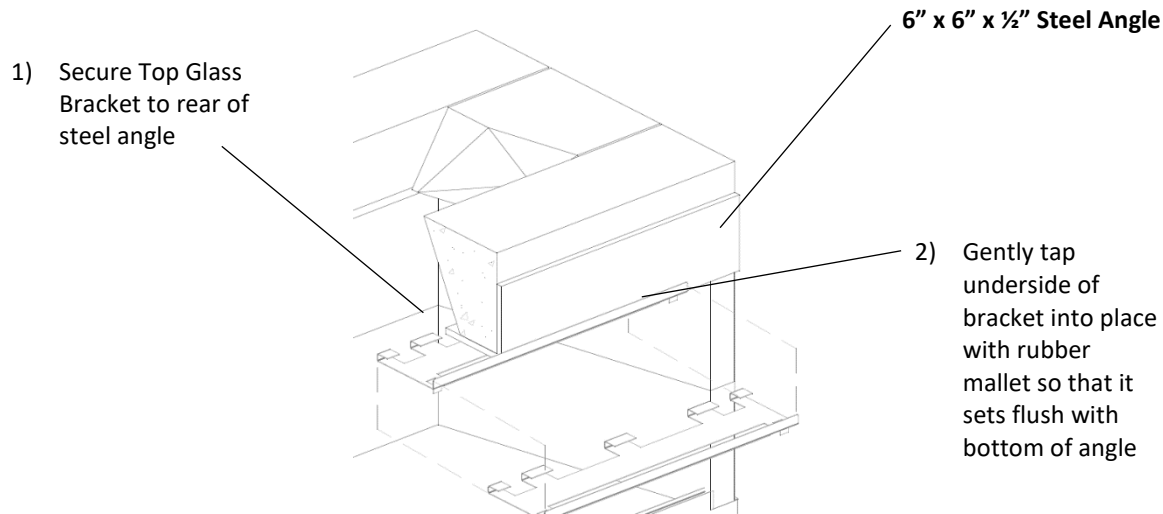

FIGURE 17
9) For the 72", 96" and 120" models, once the dampers beams are set into place, secure the Top Glass Bracket A (E-TG2) in place with the bottom of the angle steel as shown (**Figure 17**). Each model will require a different number of these to be spaced equally across the firebox's opening. Tap them into place utilizing a rubber mallet to prevent marring the finish.